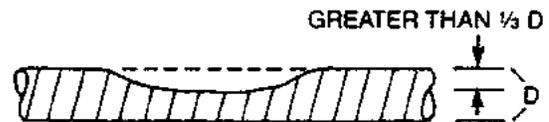

Figure 5-2 – Repair Necessary. Significant Damage to the Tubing Due to Impact or Crushing
- a. The tubing has been significantly crushed or dented (Figure 5-2)